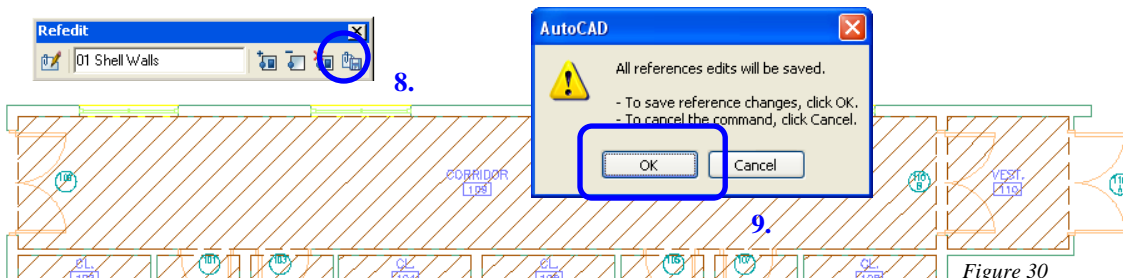

Figure 30
9. Click the OK button in the warning dialog box. *Figure 30*